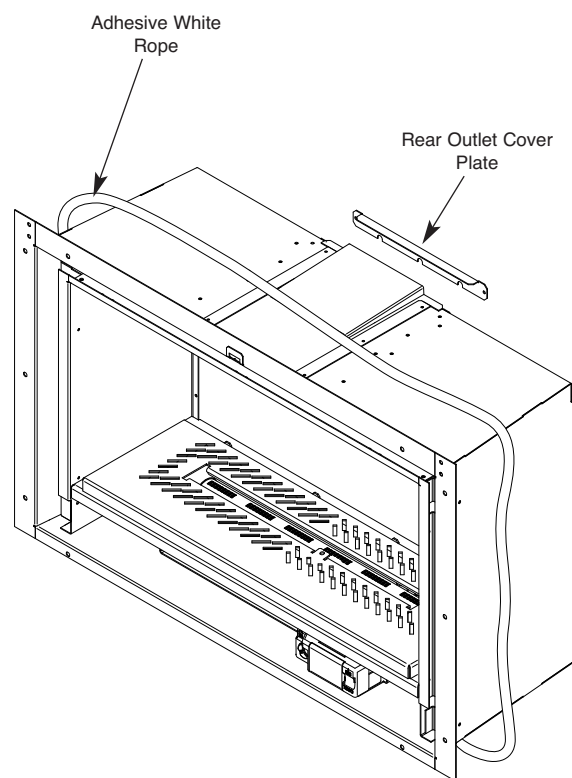

Fig. 11
3. Remove the rear flue outlet cover plate, this is secured with two pozi head screws, this cover is no longer needed and may be discarded (Fig. 11).
4. Fit the adhesive white rope seal to the back of the fire front flange (Fig. 11)